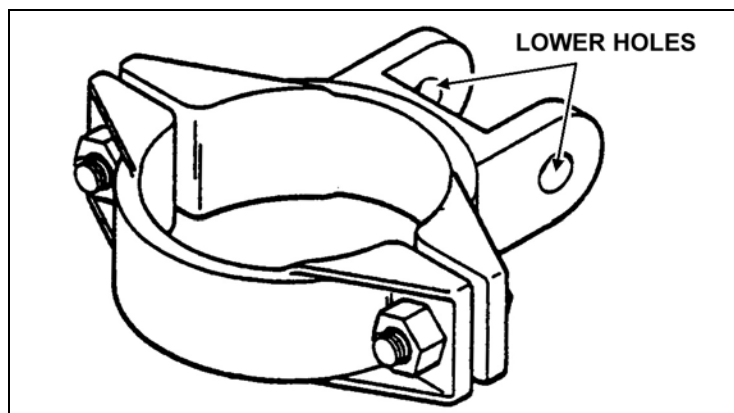

Figure 3-17. Travel lock bracket.
(5) **Travel Lock Bracket.** This bracket allows the travel lock adapter to be used with the M4 pedestal mount. It has two halves that are secured around the pedestal with nuts and bolts. The bracket is attached to the travel lock adapter by aligning the lower holes (Figure 3-17).